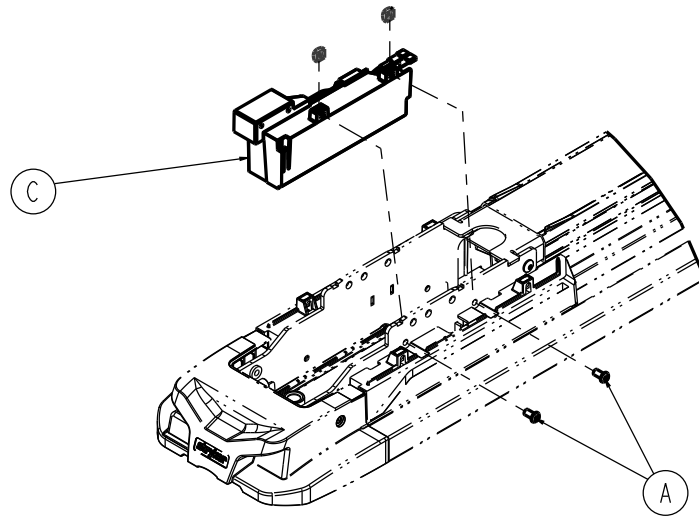

Figure 4 – Replacing the inductive primary board
- Using a T27 Torx driver, remove the two screws (A) that secure the inductive charging assembly (C) to the foot end weldment (Figure 4).